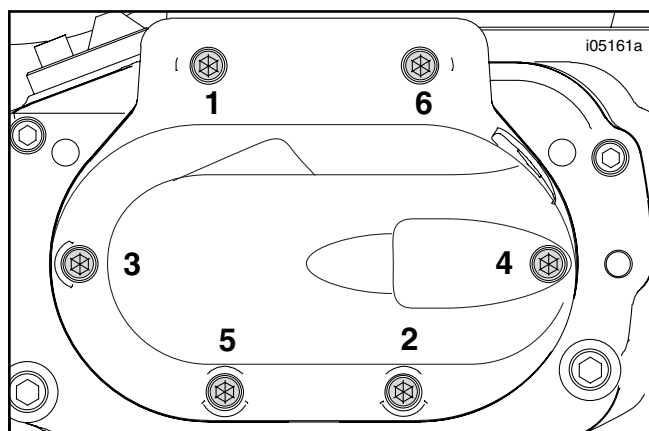

Figure 7. Torque Sequence, Transmission Side Cover
- The **new** transmission side cover gasket (4) from the kit.
- The four **new** 1-3/4 inch (44mm) long screws (2) from the kit.
- The two 2-1/4 inch (57 mm) long screws (1) saved during removal of the original cover assembly.
2. Place the **new** cover gasket from the kit over the hollow locating pins (5) in the transmission housing. Line up the new transmission side cover assembly (which includes the secondary actuator [slave] cylinder and bleeder screw) on the locating pins.
4. See Figure 7. Tighten the side cover screws, in the sequence shown, to 120-144 **in-lbs** (14-16 Nm).